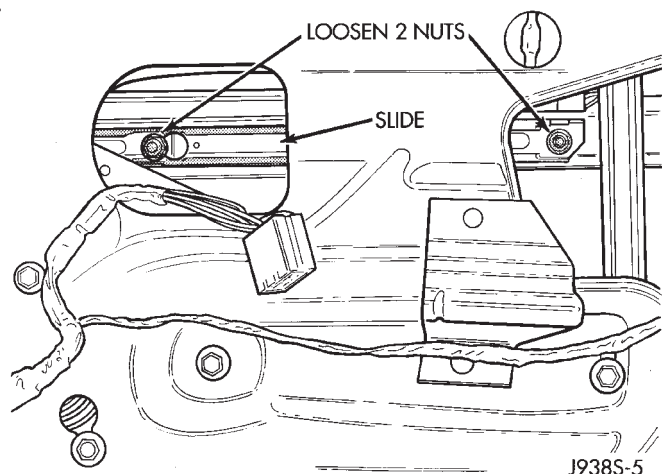

Fig. 7 Remove/Install Glass Attaching Screw
- (5) Lower window until the 2 nuts holding the glass to the regulator are visible (Fig. 7).
- (6) Unplug electrical connector from switch.
- (7) Remove screws holding speaker.
- (8) Pull speaker from door and unplug connector.
- (9) Loosen 2 nuts holding glass to window regulator (Fig. 7).
- (2) Install the remaining 4 screws.
- (3) Tighten the 4 regulator screws to 12 N•m (105 in. lbs.) torque.
- (4) Move the glass as far rearward into the channel as possible and pushed down. Tighten the 2 window track screws to 12 N•m (105 in. lbs.) torque.
- (5) Attach the door glass by sliding the 2 nuts into the slots on the regulator (Fig. 7). Tighten the door glass nuts to 12 N•m (105 in. lbs.) torque.
- (6) Connect the wire harness connector to the regulator.
- (7) Install the speaker.
- (8) Using 3M 08044 or 3M 08041 adhesive/sealant, install the plastic water dam sheet.
- (9) Place the trim panel in the installation position and press in the nylon retainers.
- (10) Install the door panel attaching screws.